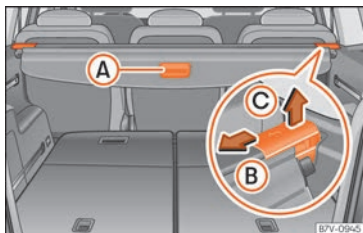

Fig. 141 In the luggage compartment: luggage compartment tray.
- Pull the shelf handle » **Fig. 141 A** a little bit backwards.
- Release the shelf in the direction of the arrow » **Fig. 141 B**.
- Lift the shelf off in direction of the arrow »» **Fig. 141 B**.
- Release the shelf in the direction of the arrow »» **Fig. 141 B** and lift it in the direction of the arrow **C**.